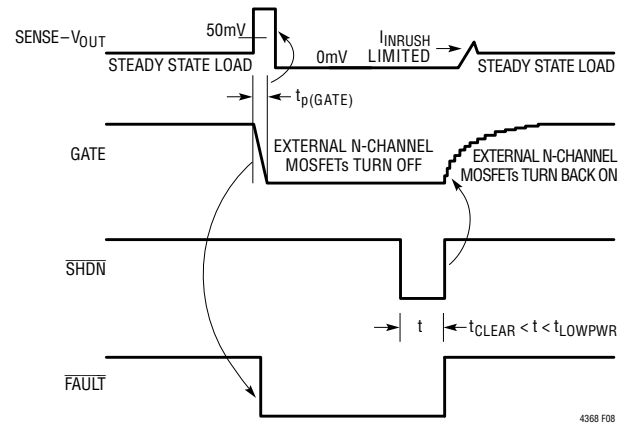

Figure 9. Forward Overcurrent Fault with RETRY Pin Grounded
- Latch off the MOSFETs by grounding the RETRY pin (no external RETRY capacitor needed). This latches the forward overcurrent fault. The external MOSFETs are kept in the off condition until the SHDN input pin is toggled low then high (t_{CLEAR} pulse width $< t_{LOWPWR}$). See Figure 9 timing diagram.